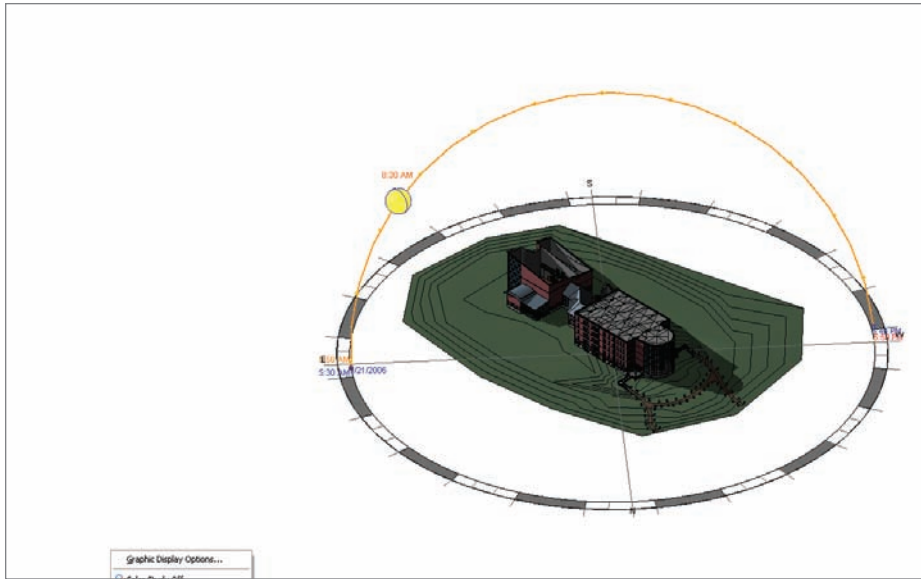

FIGURE 19.24 Previewing the solar study
12. On the View Control bar, click the Shadows button, then select Preview Solar Study, as shown in Figure 19.24.